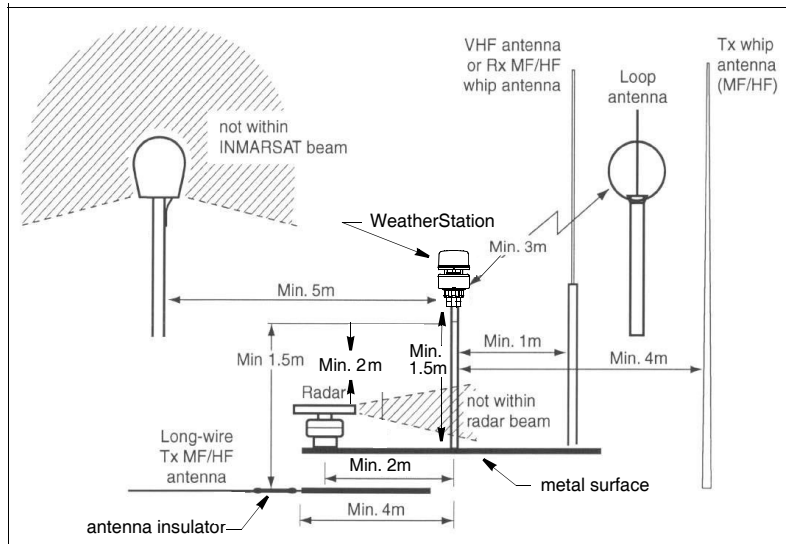

Figure 2. Antennas
- To prevent interference to the internal GPS (Figure 2):